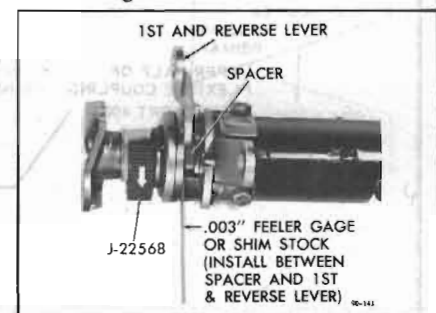

Figure 90-95—Adjusting Shift Lever Lash at Lower End of Steering Column
3. On only column shift columns used with 3 speed manual transmissions reassemble shift tube into mast jacket (rotate shift tube to align with keyway in bowl) and reinstall spacer, 1st and reverse lever, adapter assembly, reinforcement ring (or alignment plate) and screws. Using special tool J-22568 and a .003 inch feeler gage or shim stock installed as shown in Figure 90-95, turn adapter in a clockwise direction until looseness of 1st and reverse lever is taken up, then tighten reinforcement ring screws 8-12 lb. ft. and remove feeler gage or shim stock. Recheck adjustment by trying to slide a piece of .005 inch shim stock between 1st reverse lever and spacer. If adjustment is correct, shim stock should not fit.